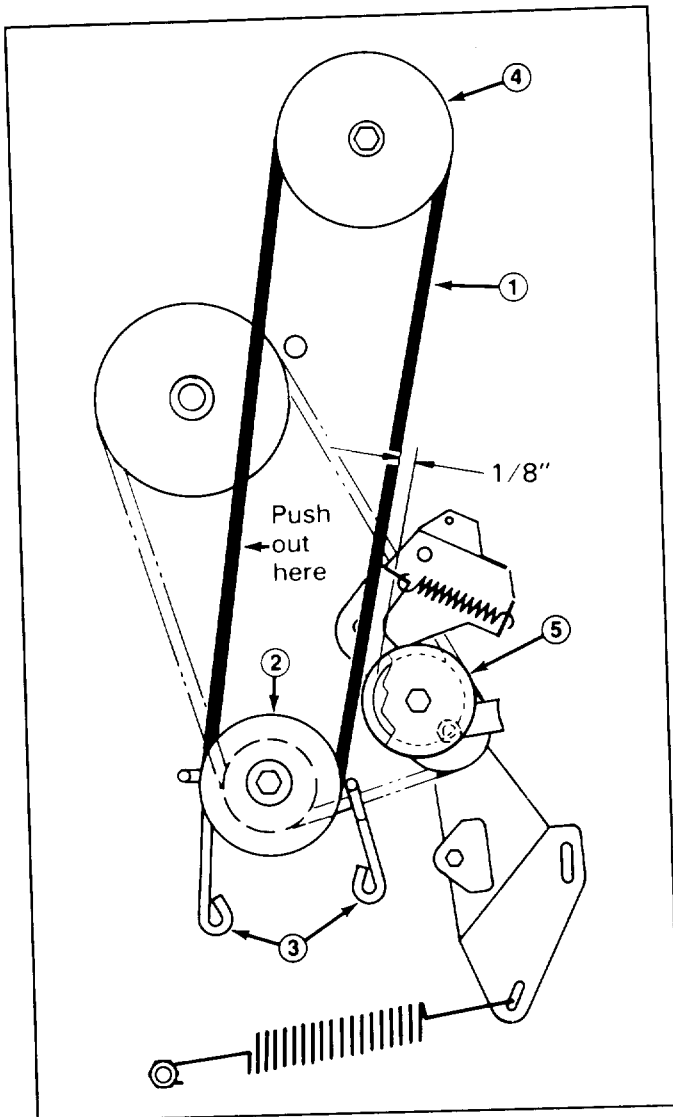

Figure 18
7. Loosen capscrews securing (2) engine pulley belt guides and move guides away from pulley. Remove deck drive belt from engine pulley (Fig. 18).
9. Remove (2) screws securing belt guide to mower housing and remove belt guide. Remove belt from pulley.
12. Pushing out on belt (removing slack), as shown in fig. 18, check clearance between outside of belt and inside of idler pulley (Fig. 18). Clearance should be approximately 1/8".